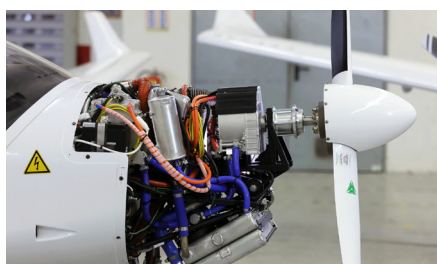

Figure 3
Figure 3: Electric hybrid aircraft power. The electric motor provides high power for take off and short flights without fuel. A petrol engine drives a generator for backup power and longer range. Copper cables supply the high electric current to the motor. (Courtesy of Siemens.) (Wikimedia Commons.)
2. What are the advantages of electric power for the aircraft in Figure 3?